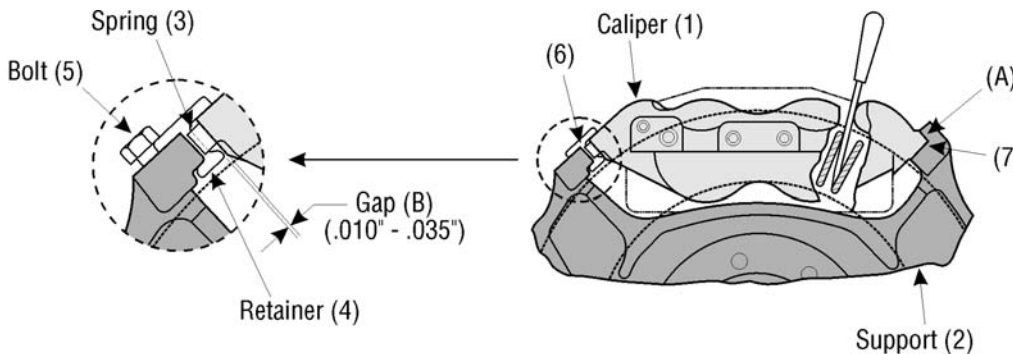

Figure 1
- A. Remove spring (3), retainer (4), and bolt (5).
- B. Lift caliper (1) up and off support (2). Do Not let the caliper hang from the hydraulic hose. Lay the caliper on the suspension or support it with a length of sturdy wire.
- C. Wire brush the support rails (6) and (7). Wire brush rail surfaces of the caliper.
- D. Reinstall caliper (1) on support (2).
- E. Reinstall spring (3) and retainer (4).
- F. With caliper (1) assembled in place on the support (2), place a screwdriver or other suitable tool between the rotor vanes as shown in Figure 1 and rotate the wheel by hand in the forward direction to place the forward support rail in full contact with the caliper support rail surfaces at (A).